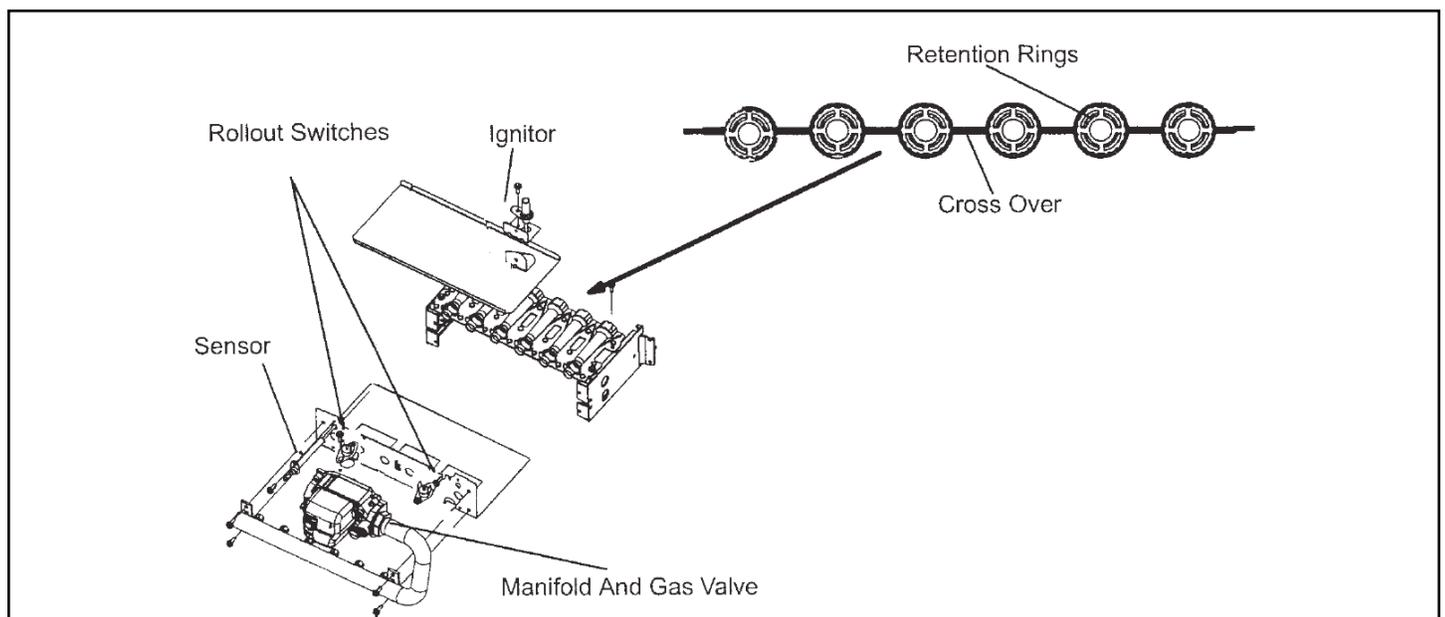

Figure 36. Burner, Combustion Air Inducer Assembly & Heat Exchanger Removal
4. To clean burners, run a vacuum cleaner with a soft brush attachment over the face of burners. Visually inspect inside the burners and crossovers for any blockage caused by foreign matter. Remove any blockage. Figure 36 shows burner detail.